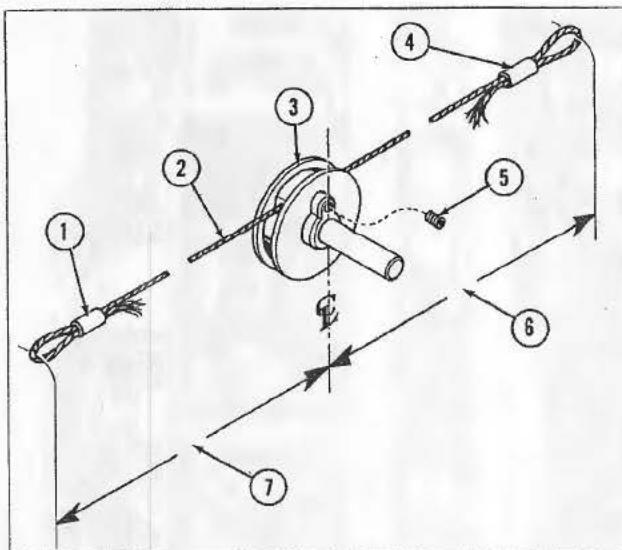

Fig. 86. TURNTABLE CABLE AND DRIVE PULLEY
(1) To install a new cable for the turntable actuating shaft assembly, pass the cable (Fig. 86, Item 2) through the hole in the drive pulley (Item 3) and form a loop at each end of the cable $\frac{3}{4}$ of an inch long, clamping with sleeves (Items 1 and 4). Locate the cable in the pulley to conform to the dimensions shown at (Items 6 & 7) and lock securely with the set screw (Item 5).